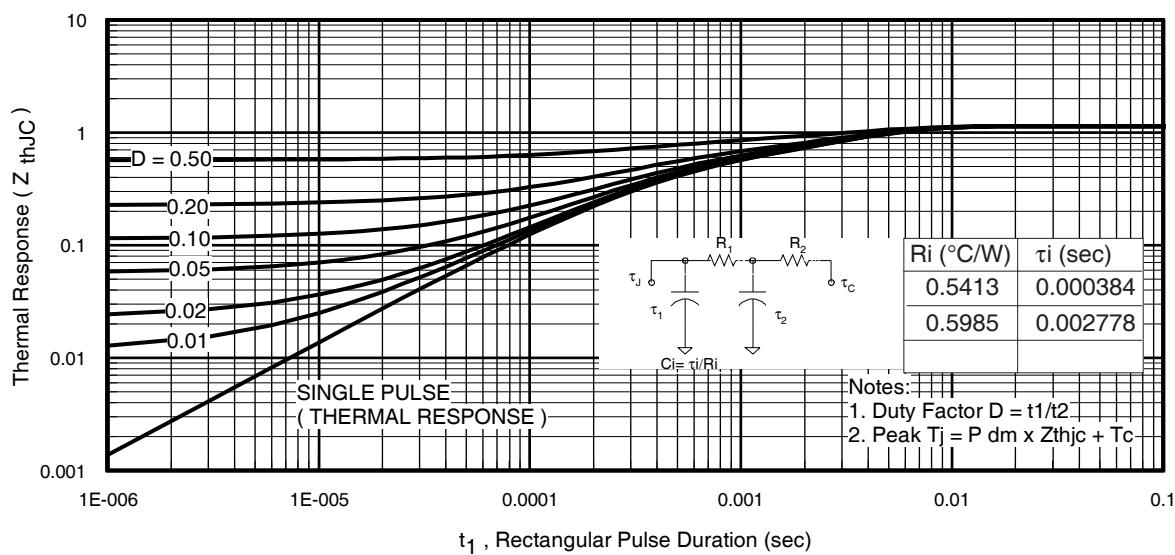

Fig 11. Maximum Effective Transient Thermal Impedance, Junction-to-Case
- ① Repetitive rating; pulse width limited by max. junction temperature. (See fig. 11).
- ② Limited by T_{Jmax} ; starting $T_J = 25^\circ\text{C}$, $L = 0.09mH$
$Z_{thJC}(D, t_{av})$ = Transient thermal resistance, see figure 11)